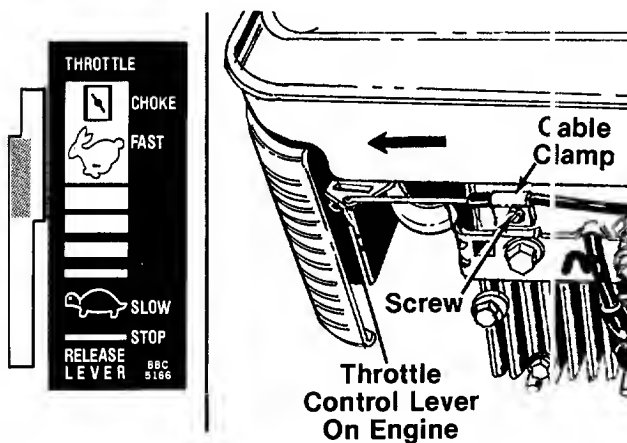

FIGURE 7.
8. Move throttle control lever on handle forward until it stops in "Fast" position (**do not** push all the way forward to "Choke" position). See figure 7.
9. Slide the throttle control lever on the engine as far toward the outside of the engine as it will go **easily** as shown in figure 7. (**Do not** force it into the extreme outside position, which is the "Choke" position).
11. Loosen the screw on the cable clamp shown in figure 7. Slip the control casing under the clamp. With the throttle lever on the engine still in the "Fast" position, tighten the screw to secure the throttle control cable. Be certain the clamp is positioned so it holds the cable in a straight line, parallel to the engine shroud.
1. Loosen, but do not remove, screw securing throttle control wire assembly at engine. Refer to figure 7.